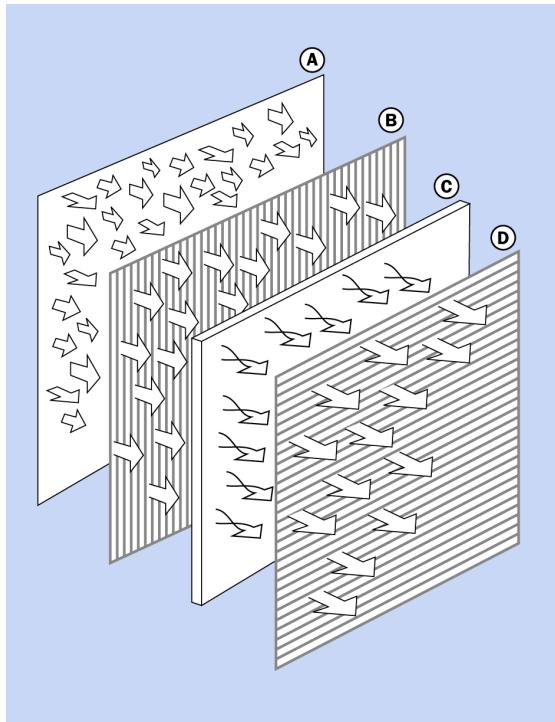

Figure 17-2. The combination of two polarizers and a liquid crystal appears transparent when voltage is not applied. See text for details.
Figure 17-2 shows a simplified view of an LCD that uses a backlight. Incoherent light emerges from the backlight panel (A) and enters a vertical polarizing filter (B) that limits the electric field vector. The polarized light then enters a liquid crystal (C) which is a liquid composed of molecules organized in a regular helical structure that rotates the polarity by 90 degrees when no voltage is applied to it. The light now passes through
A *transmissive LCD* requires a backlight to be visible, and is the type illustrated in **Figure 17-2**. In its simplest form, it is a monochrome device, but is often enhanced to display full color by adding red, green, and blue filters. Alternatively, instead of a white backlight, an array of pixel-sized red, green, and blue **LEDs** may be used, in which case filters are unnecessary.
In a *reflective LCD*, the structure is basically the same as that shown in Figure 17-2 except that a reflective surface is substituted for the backlight. Ambient light enters from the front of the display, and is either blocked by the liquid crystal in combination with the polarizing filters, or is allowed to reach the reflective surface at the rear, from which it reflects back through the liquid crystal to the eye of the user. This type of display is very easily readable in a bright environment, but will be difficult to see in dim conditions and will be invisible in darkness. Therefore, it may be augmented with a user-activated light source mounted at the side of the display.